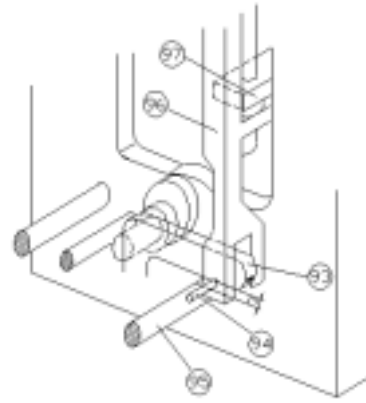
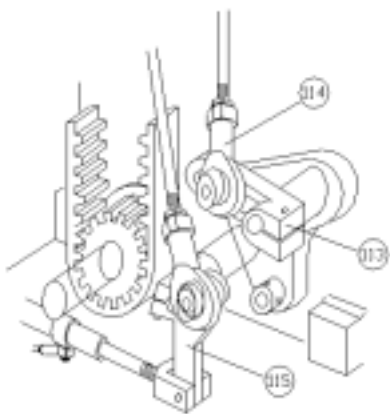
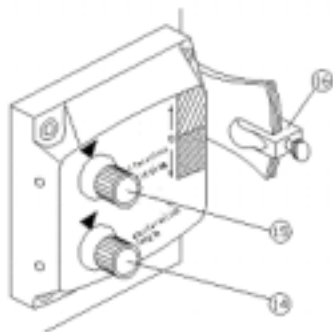
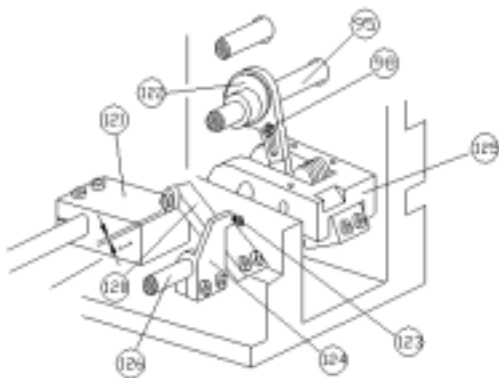

FIG.28
FIG.44
FIG.46
FIG.47
- (e) Remove the connecting pin (94) of the stitch lengthening lever (96) and the stitch adjustment drive lever (93). FIG. 28.
The movement of the feet must be coordinated and centered with respect to the feed dog by means of the fork-shaped transport lever (110) and by varying the position of the joint (110) in the slot of the pressure foot movement lever (113). The screw for adjusting the position of the joint (114) is accessible from the hole in the right-hand side of the bench. FIG. 44.
This adjustment is carried out by means of the pressure foot lift drive lever, which can be reached by removing the cover on the rear part of the arm. Place a piece of card or folded paper underneath the pressure feet. With the graduated dial for the adjustment of the length turned completely in an anti-clockwise direction, make 11 holes with a distance of 16 mm between the first and eleventh hole. Fix the lower stop register (98) for the minimum stitch length against the connecting lever (97). Then set the dial at "0" and tighten the dial clamping screw. FIG. 28 & FIG.46. Turn the dial clockwise until the vernier is at position 81/2. Never set the dial beyond this position. Fix the upper stop register (99) for the maximum stitch length against the connecting lever. FIG. 28. In this way the main transport is adjusted. The machine can sew with a saddle stitch and the length of the stitch can be altered at will between a minimum of 1.6 mm and a maximum of 6.3 mm. N.B. - Further adjustments can be made so that the machine can be put to different uses in relation to the multitude of possible applications.
Turn the graduated stitch correction dial (15) as far as it will go in a clockwise direction. Set the vernier on ((0)), fix it in this position, and then turn the dial as far as it will go in an anti-clockwise direction. FIG. 46. Turn the graduated stitch length dial (14) in a clockwise direction and set it at the maximum length. Tighten the screws of the stitch correction lever (120) so that can be placed by hand at a distance from the correction register (121). FIG. 47. Turn the hand-wheel until the needle bar reaches its L.D.C. in the second cycle. With the needle bar at its L.D.C. place the stitch correction eccentric (122) in the position in which the point correction lever (120) does not move when the position of the reversal lever (16) on the adjustment box is repeatedly reversed.
Check that the eccentric (122) and the connecting rod are still in line before tightening the screws of the eccentric. Fix the reversing lever (16) in the lowest position by means of the screw with the knurled head. FIG. 46. Loosen the clamping screws of the point correction lever (120) and the correction register (121). With the needle bar still at its L.D.C. in the second cycle, position the bearing of the point correction lever (120) so that the line of contact with the correction register block (121) is 1 mm from the front edge of the register itself, and then tighten fully the screws of the correction register block. FIG. 47. Turn the adjustment screw (123) in the counter lever until the end of its shank project about 1 mm from the counter lever (124). Block the screw with its lock nut. With the needle bar at its L.D.C. in the 2nd cycle, and keeping the adjustment screw (123) of the counter lever resting against the stitch correction lever (120), move both levers and tighten the clamping screws of the counter lever in the position in which there is a distance of 1.5 mm between the bearing and the correction register (121). Now make holes in a piece of card. Make this row of stitches with a ((B)). In this case ((B)) the short corrected stitch would be visible on the lower part of a sample of fabric, since the reversing lever (16) on the adjustment box was in the bottom position. Turn the hand-wheel to bring the needle bar to its L.D.C. and loosen the screw with the knurled head (119) of the reversing lever. Move the lever to the top position and fix it with screw. Make a new row of holes and mark it with ((T)). This sequence would show the short corrected stitch on the upper part of a sample of fabric because the reversing lever (16) was in the top position. Now compare the two sequence. Normally they should be the same. The machine works with the soft-point mechanism, and so the length of short corrected stitch in the sequence marked ((T)) should be adjusted to be slightly shorter than in the sequence marked ((B)). This adjustment is necessary in order for the short corrected stitch to look the same on both the front of the jacket and on the lapel. To correct this apparent difference on sewn garments please proceed as follows:
- Turn the hand-wheel to bring the stitch correction lever (120) into the position of maximum intervention, with the bearing in contact with the correction register block (121), and loosen the two screws of the reversal drive lever (115). FIG. 44.
- Moving the correction support (125) toward the lower main shaft (95) produces the longest short corrected stitch in the ((B)) sequence and the shortest one in the ((T)) sequence.
- (d) Moving the correction support (125) toward the spindle (126) of correction lever produces the shortest short corrected stitch in the ((B)) sequence and the longest one in the ((T)) sequence. The effect of these adjustments can easily be seen by observing the variations they cause in the position of the stitch-lengthening lever (96) connected with the stitch adjustment drive lever (93). FIG. 28.
- (e) After making the necessary correction tighten the two screws of the reversal drive lever (155). FIG. 44. The last adjustment to be made is the minimum length of the short corrected stitch.
- (f) Turn the hand-wheel to bring the stitch correction lever (120) into the most forward position in the bearing against the correction register block (121).
- (g) Loosen the locking nut of the adjustment screw (123) and the two clamping screws of the stitch correction lever (120).
- (h) Turning the adjustment screw (123) in a clockwise direction shortens the short corrected point, while turning it in anti-clockwise direction lengthens the short corrected point.
- (i) Make certain that the adjustment screw (123) is turned with the bearing of the correction lever (120) pushed up against the correction register block (121). After adjusting, fix the adjustment screw with its block nut and block the screws of the stitch correction lever (120) while this rests against the correction register block (121). FIG. 47.